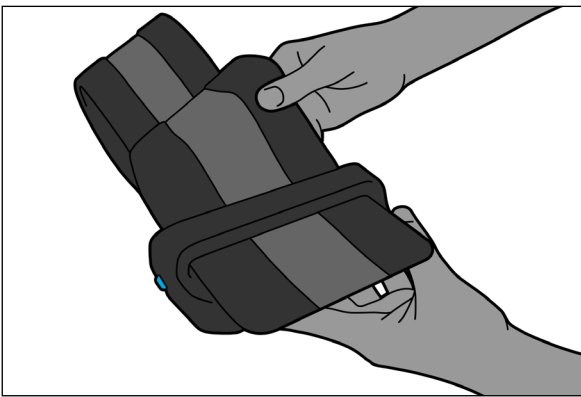
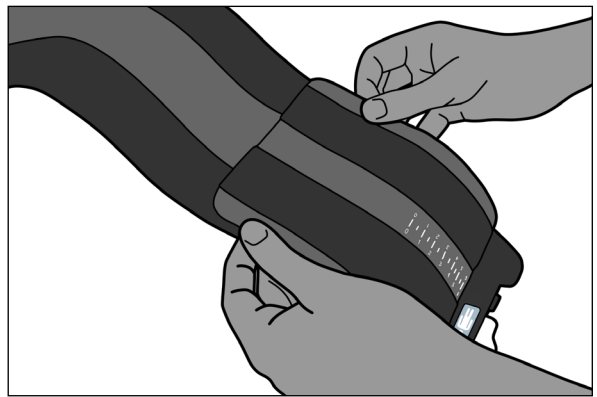

Fig. 2
Fig. 3
2. Position belt with numbers facing down then feed the long end of belt through clamp (Fig. 2). Return the belt on itself ensuring the full length of the hook is engaged on the loop (Fig. 3).